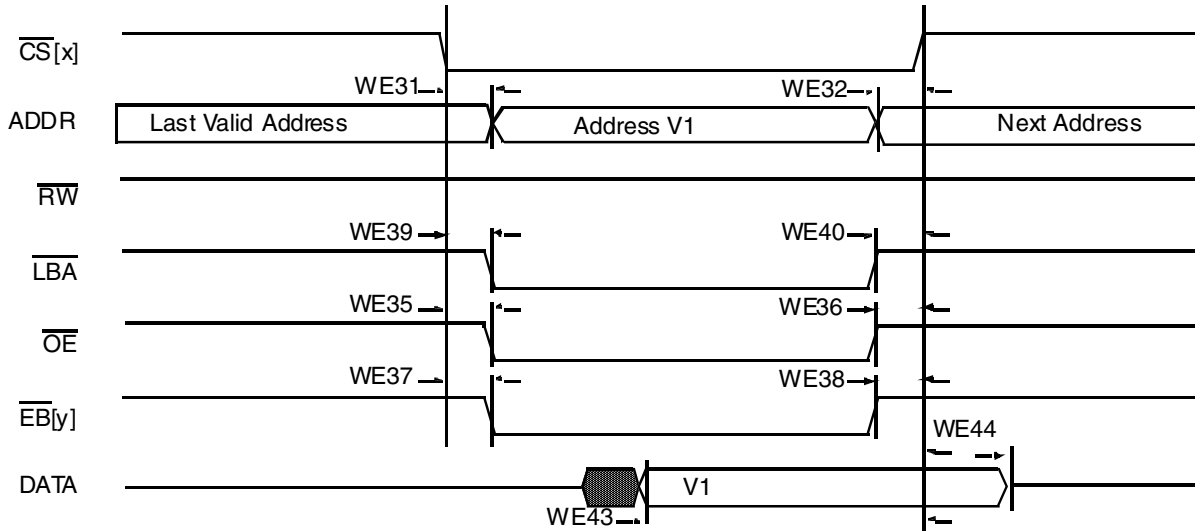
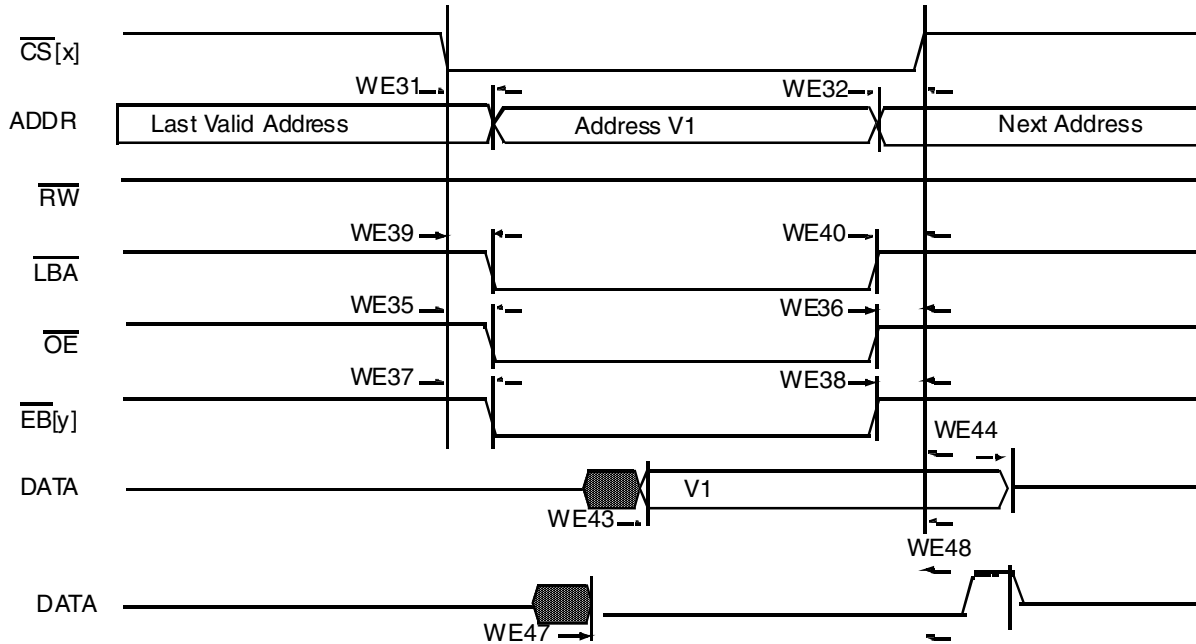

Figure 33. Asynchronous Memory Read Access
Figure 37. DTACK Read Access
Figure 33 through Figure 37, and Table 47 help to determine timing parameters relative to chip select (CS) state for asynchronous and DTACK WEIM accesses with corresponding WEIM bit fields and the timing parameters mentioned above.